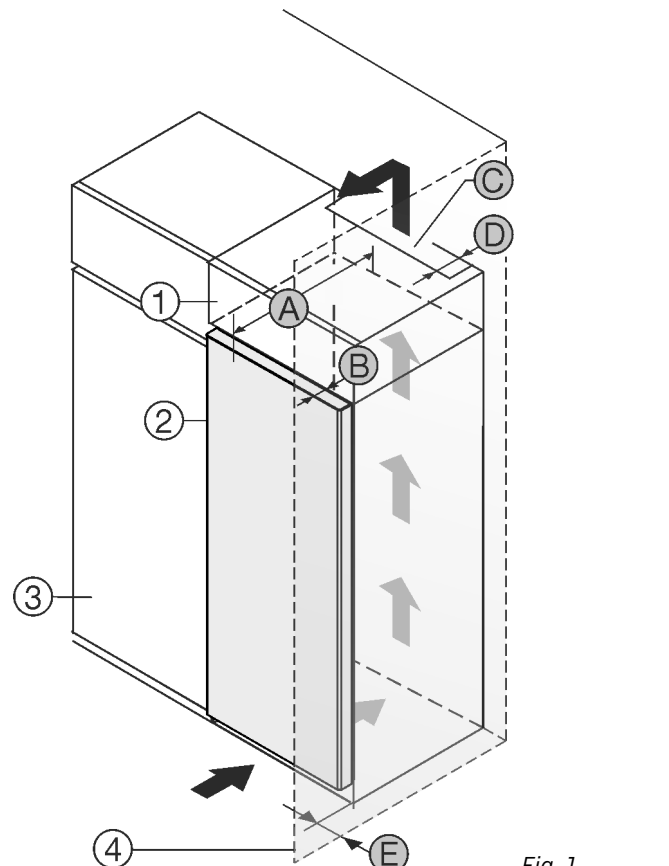

Fig. 1
Set up the appliance directly next to the kitchen cabinet Fig. 1 (3).
There must be a ventilation shaft at the depth Fig. 1 (D) of the back of the top cupboard over the entire width of the top cupboard.
The ventilation cross-section Fig. 1 (C) must be maintained under the ceiling.
If the appliance is set up with the hinges next to a wall Fig. 1 (4), the distance between the appliance and the wall must be at least 13 mm.
If the appliance is set up with the hinges next to a wall Fig. 1 (4), the distance between the appliance and the wall must be at least 20 mm.